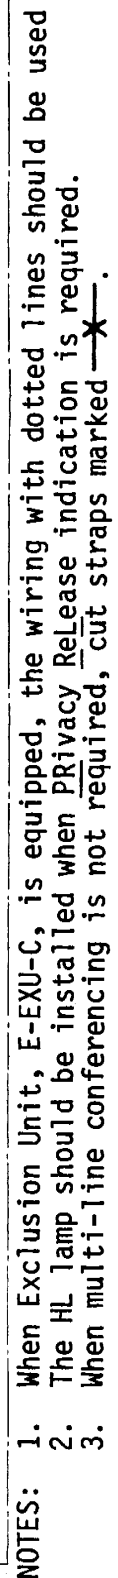

Figure 3.1 - Schematic - E-100-B0 Key Telephone Set
3.12 The EXclusion Unit, E-EXU-C, is installed in the front, right hand side of the telephone base with 2 screws and stand-off insulators. The circuit is then connected to the pintip terminals on the ETB-1B circuit board as shown in the schematic in Figure 3.1.
3.22 On the ETB-1B board reverse the leads on terminals XT7 and XT8. The color of these leads will depend on whether the telephone is equipped with an E-EXU-C circuit board. Refer to Figure 3.1.
3.24 For restriction of a TIE-TONE dial, reverse the leads on terminals XT7 and XT8 of the ETB-1B board. Refer to Figure 3.1. Then reverse the ICM T and R leads of the restricted station for the dial selective intercom at the KSU.
- (d) Connect the 250B dial in accordance with Figure 3.1 or Figure 3.7 for the 350/C3B dial.